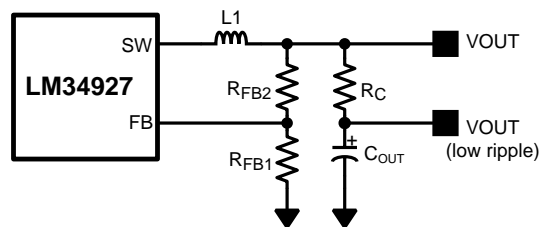

Figure 16. Low Ripple Output Configuration
This regulator regulates the output voltage based on ripple voltage at the feedback input, requiring a minimum amount of ESR for the output capacitor ( $C_{OUT}$ ). A minimum of 25 mV of ripple voltage at the feedback pin (FB) is required for the LM34927 device. In cases where the capacitor ESR is too small, additional series resistance may be required ( $R_C$  in Figure 16).
For applications where lower output voltage ripple is required, the output can be taken directly from a low ESR output capacitor, as shown in Figure 16. However,  $R_C$  slightly degrades the load regulation.